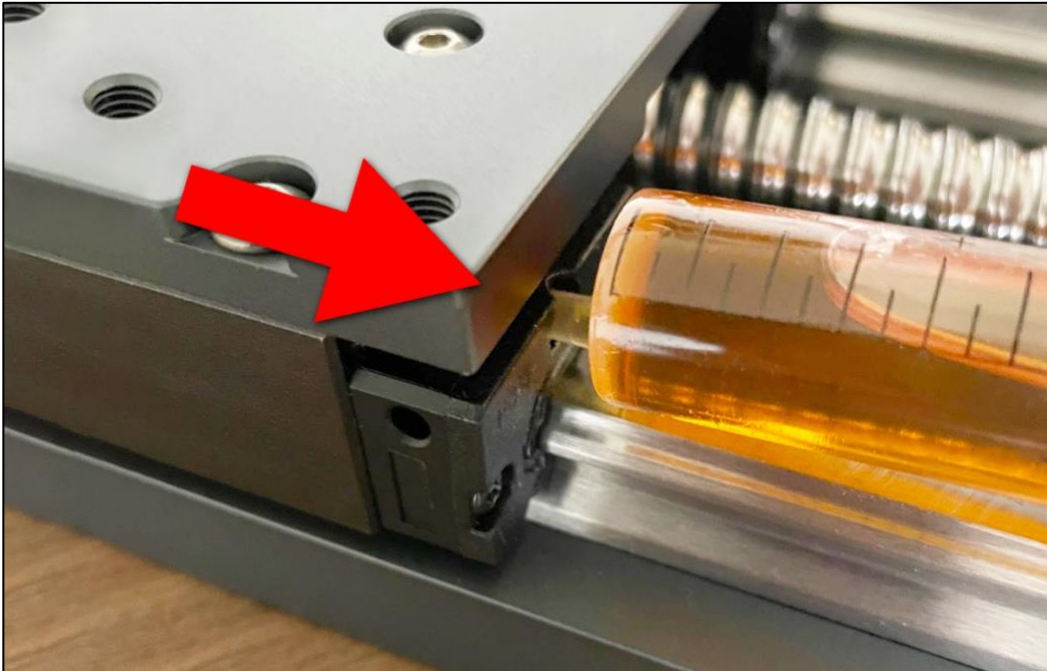

Figure 6
5. Press the tip firmly into the screw hole and gently squeeze about 1ml of oil into each linear guide. See *Fig. 6.* *